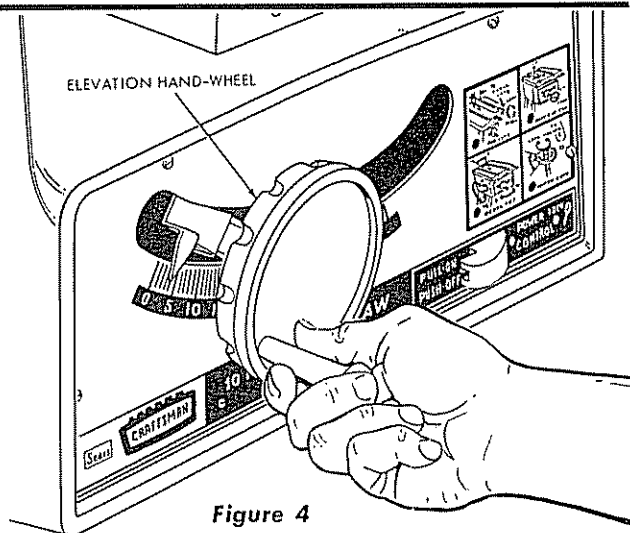

Figure 4
5. Rotate the elevation hand-wheel clockwise until it stops. This will position the saw blade at maximum height (deepest cut) position. (See figure 4.)